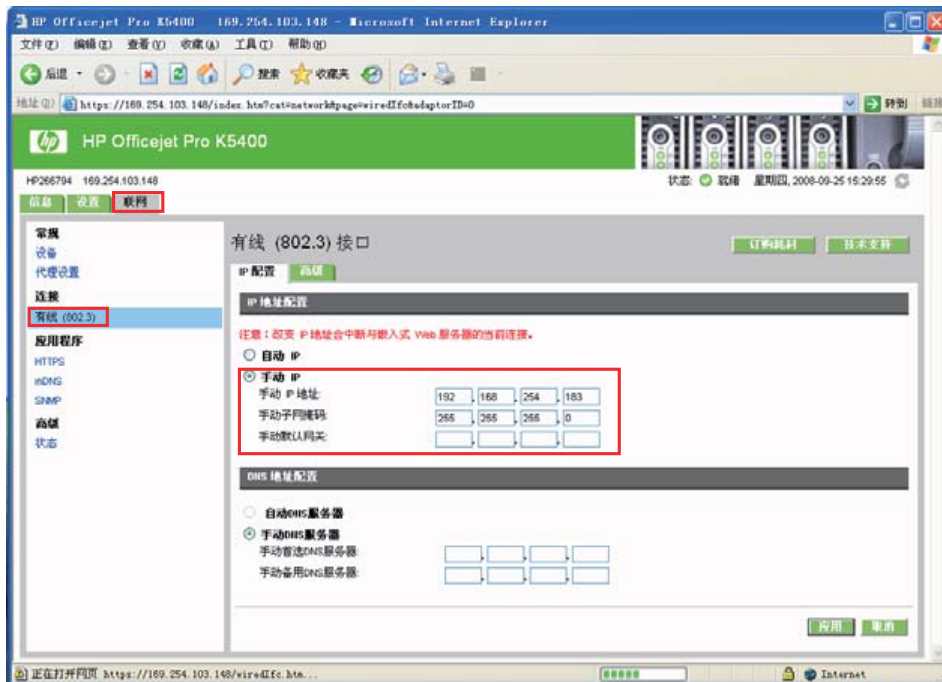

Figure 9.3: K5400 Printer setting window
3. Change this randomly allocated IP address to a fixed address, 192.168.254.183, by following these steps (also refer to figure 9.3),